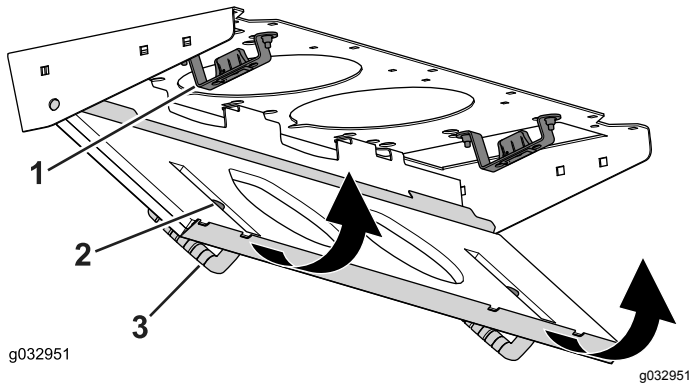

Figure 123
4. Rotate the filter screen around the tabs until the latch locks into the latch-mount assembly (Figure 123).